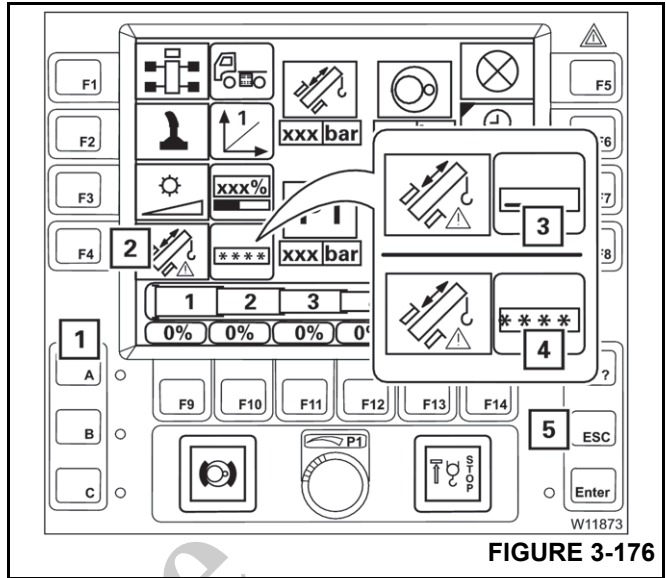

FIGURE 3-176
Refer to Figure 3-176.
2. Additionally press the button (2) (Figure 3-176) once – symbol (3) appears.